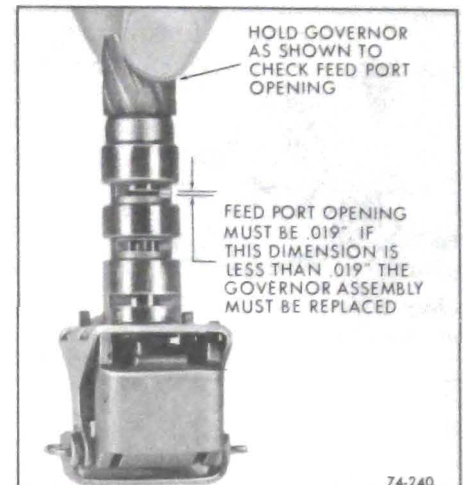

Figure 74-240
1. Check governor feed port opening. See Figure 74-240. If less than .019 feed port opening is found, the complete governor assembly must be replaced.